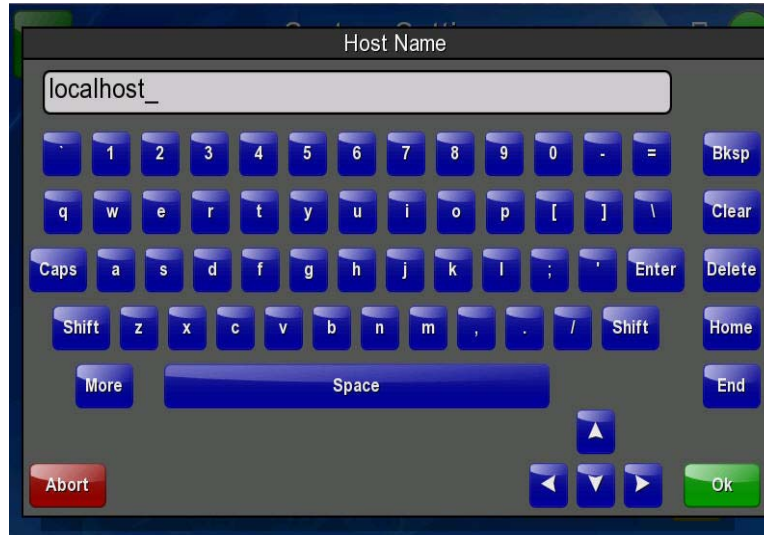

FIG. 24 Host Name keyboard
4. Press the optional *Host Name* field to open the *Host Name* keyboard (FIG. 24) and enter the host name information. The default name is “localhost”.